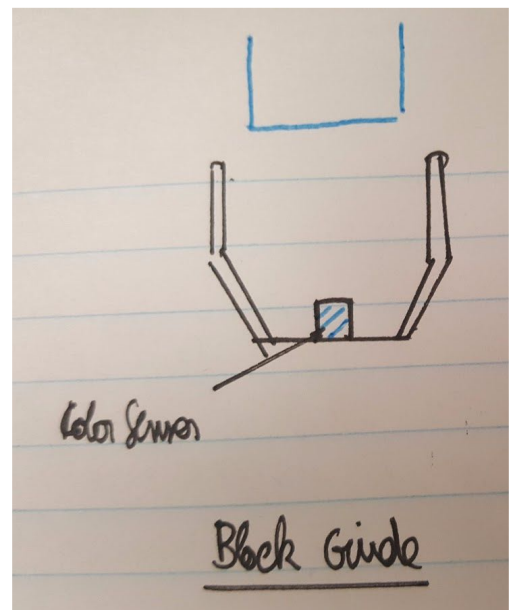

Figure 5 : Diagram of the block guider
- Similarly, a guide could be used to correctly place the block facing the light sensor correctly. See **Figure 5**